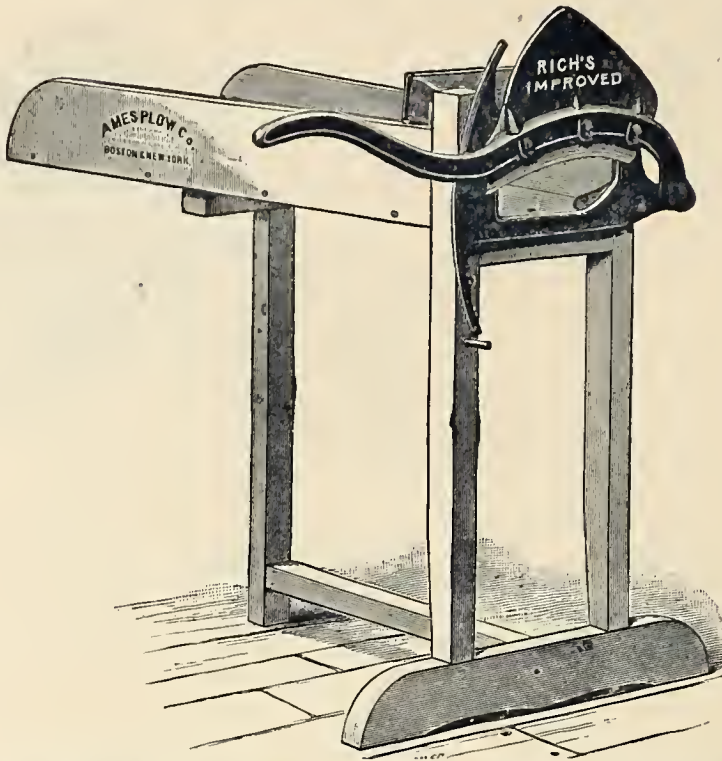

Fig. 442. — Rich's Improved Lever Feed-Cutter (Curved Knife).
*The Rich's Improved Lever Feed-Cutter*, shown by *Fig. 442*, is the latest and most successful in the market. By an ingenious contrivance, the lever of this cutter is held in bearing at both ends of the knife, keeping the cutting-edge against